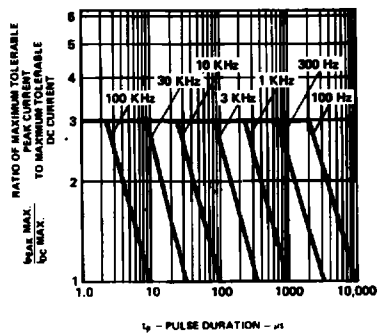

Figure 2. Maximum Tolerable Peak Current vs. Pulse Duration. ($I_{DC\ MAX}$ as per MAX Ratings).
- See Figure 2 to establish pulsed operating conditions.